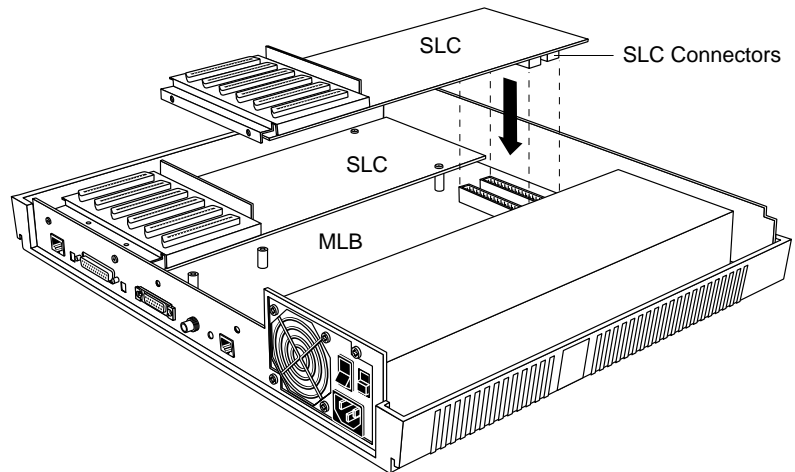

Figure C-6. Attaching the SLC Connectors
- 2 Carefully press the SLC connectors into place. Make sure the connectors are seated properly (see Figure C-6).